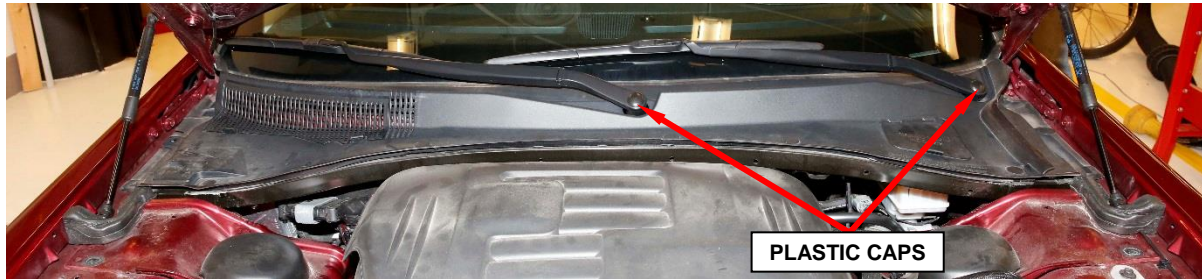

Figure 5 – Wiper Arm Plastic Caps
3. Carefully pry the plastic caps off of the wiper arm pivot nuts (Figure 5).